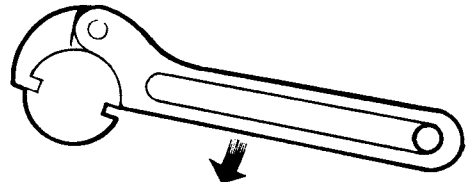

Fig. 11 'C' spanner
a. 'C' spanners. Made to fit externally-splined ring nuts (Fig. 11). Adjustable types are also available.